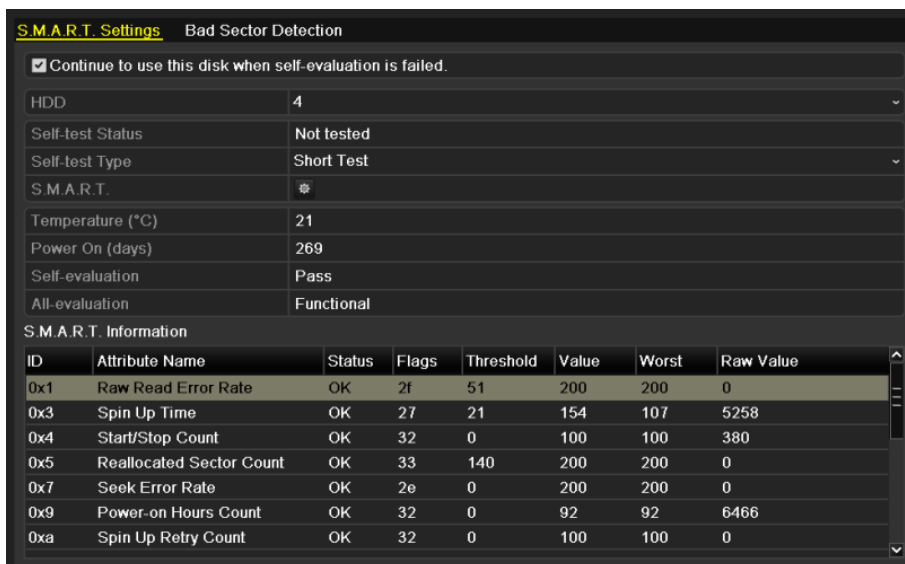

Figure 11-25 S.M.A.R.T Settings Interface
Step 2 Select the HDD to view its S.M.A.R.T information list, as shown in Figure 11-25.